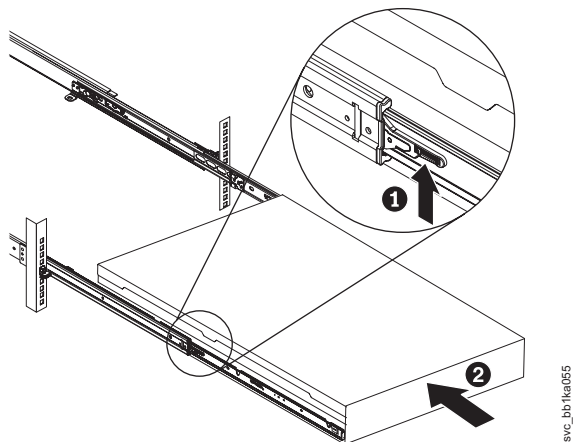

Figure 218. Raising the SAN Volume Controller 2145-CF8 locking levers of the slide rails of the rack
8. Lift the locking levers (**1** in Figure 218) on the slide rails and push the server **2** all the way into the rack until it clicks into place.